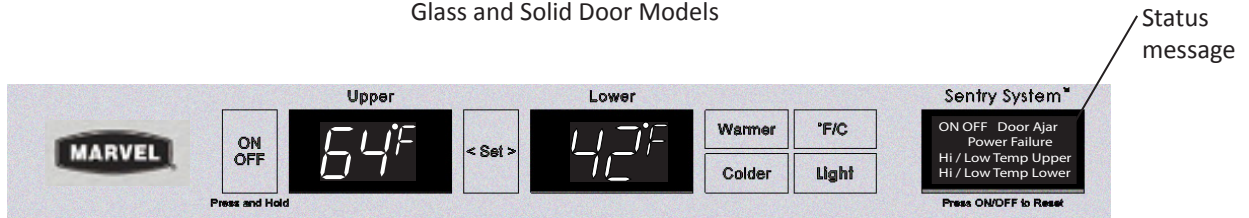

Figure 7 “Dual Zone”
Your product will start upon plug-in to power receptacle. The Sentry System LED will be flashing “amber” on single-zone models, (Figure 6), or displaying “power failure” on dual-zone models, (Figure 7), to indicate that a power outage has occurred. This is normal as the product was powered-up at the factory for quality assurance testing. Momentarily press and release the “ON/OFF” keypad to reset the control alarm status. The LED should indicate steady green (single zone) no alarms (dual zone). To turn the unit ON/OFF, press and hold the “ON/OFF” key for a minimum of 5 seconds.
• Dual-Zone Models, (Figure 7)